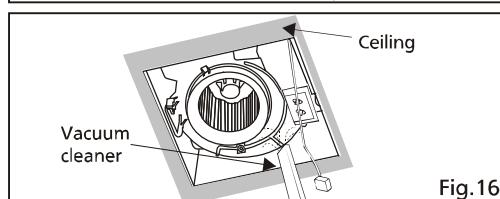

Fig.16
4. Remove dust and dirt from fan body using a vacuum cleaner. (Fig. 16)